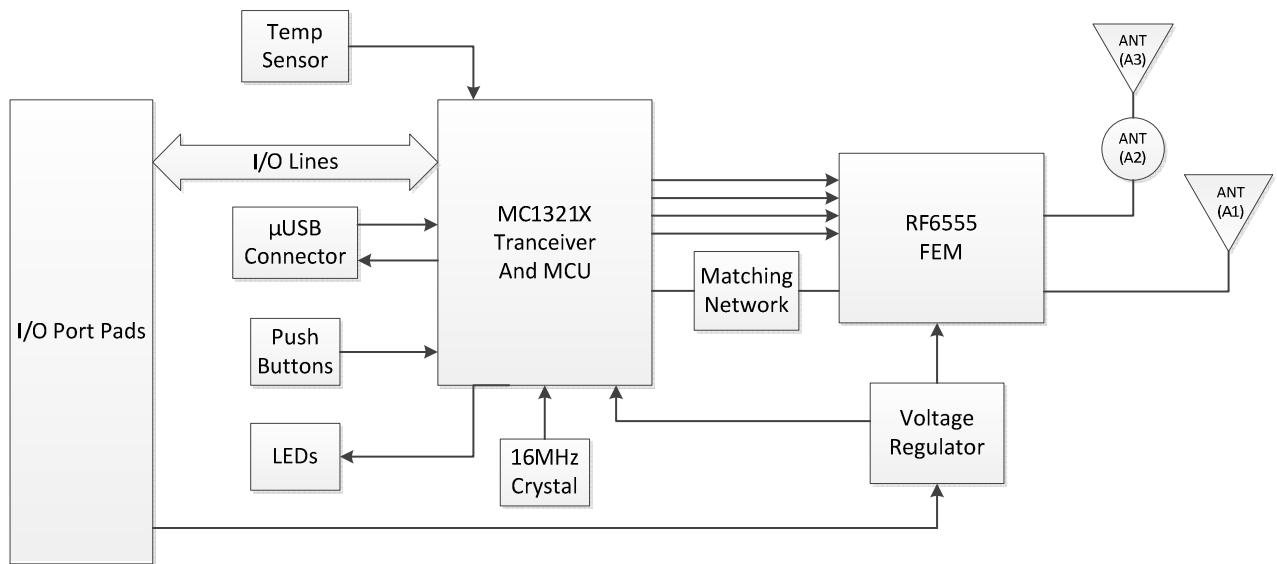

Figure 1: BW2155A block diagram
BW2155A system level block diagram is shown in Figure 1. The main components include a Freescale transceiver MC1321x, an RFMD front-end-module (FEM) RF6555, one 16 MHz crystal, and a voltage regulator. The MC1321x transceiver has its own voltage regulator to supply a stable 1.8V to its radio. The second on-board voltage regulator is rated for an input DC voltage range of 3.0 to 5.0 and provides a stable 3.0 V to the FEM and transceiver. The FEM includes an antenna switch to select one of the two RF power paths: (1) one path routes the RF power to the chip antenna A1. (2) The second path directs power to a series circuit consisting of an antenna connector A2 (which also has a built-in switch) and a second chip antenna A3. If an antenna is connected to A2, then the chip antenna A3 is disconnected from the RF circuit and the entire RF power is directed to the Whip antenna. On the other hand, if A2 is not used, the RF power will be directed to the chip antenna A3. Antennas A1 and A2 can be used in diversity antenna mode.